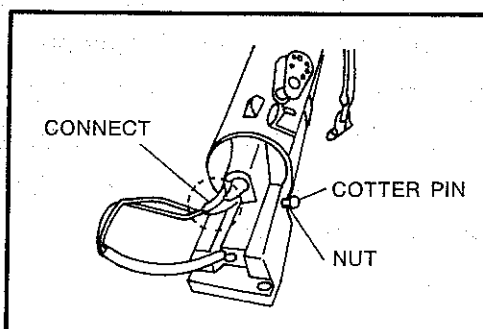

Fig. 10
(3) Setting the Heel of the Mast:
- a. Set the heel of the mast to the mast-step by putting the bolt through the hole on the heel and secure the nut and cotter pin (see Fig. 10).
(4) Setting the Appropriate Standing Rigging: